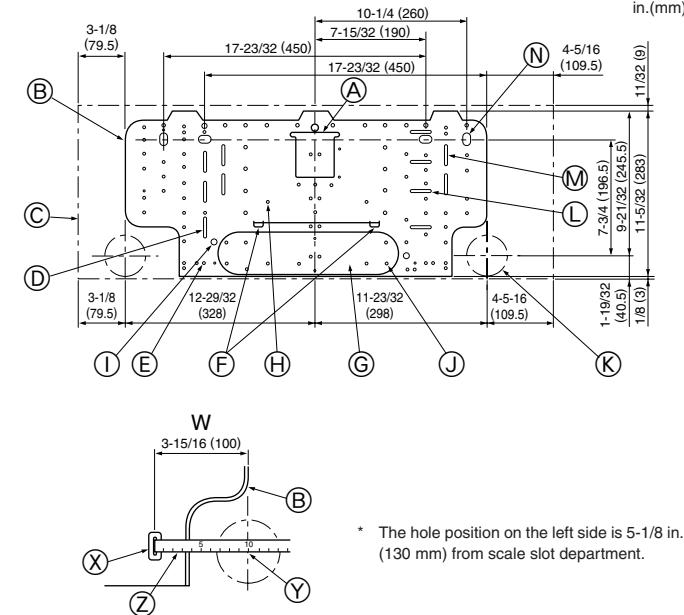

Fig. 3-4
■ PKFY-P06/P08NAMU-E (Fig. 3-4)
- Ⓑ Mount board ①